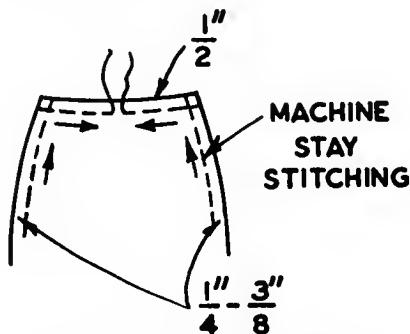

Fig. 272. Stay-stitching the skirt pieces.
- At the waistline, stitch  $\frac{1}{2}$  in. from the cut edge, beginning at the side seam and stitching toward the center front or back. Do this to all the waistline edges of the pieces which comprise the front and back of the skirt (Fig. 272).
- On the side seams, stay-stitch  $\frac{1}{4}$  to  $\frac{3}{8}$  in. from the edge from the end of zipper to the waistline on both sides (Fig. 272).